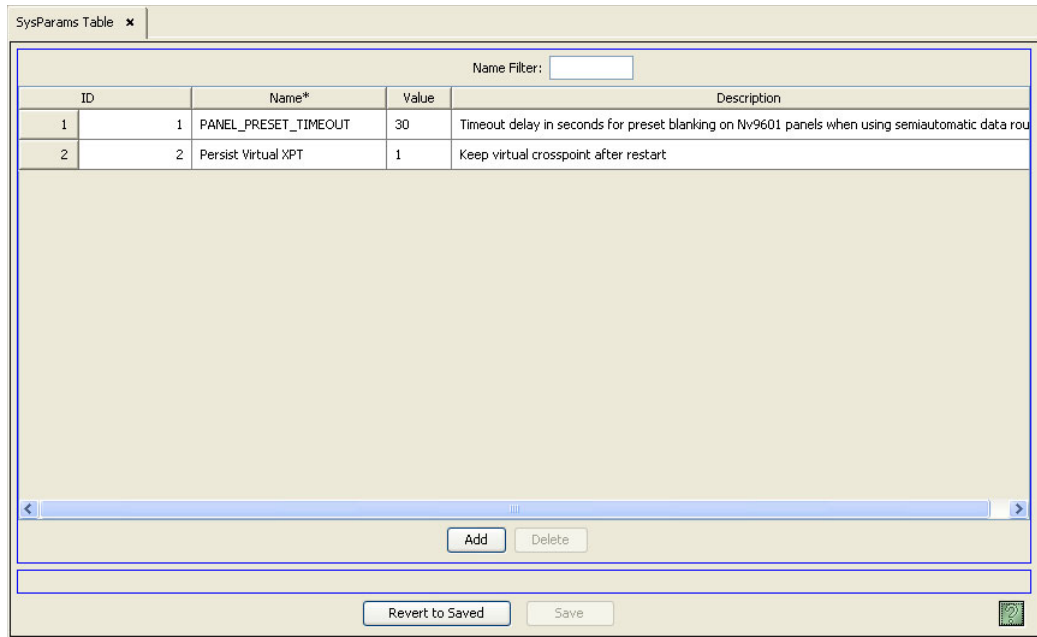

Figure 5-11. SysParams Table
- 2 From the Navigation area, select the 'Views' pane, then 'SysParams'. The 'SysParams' table displays, as shown in Figure 5-11.